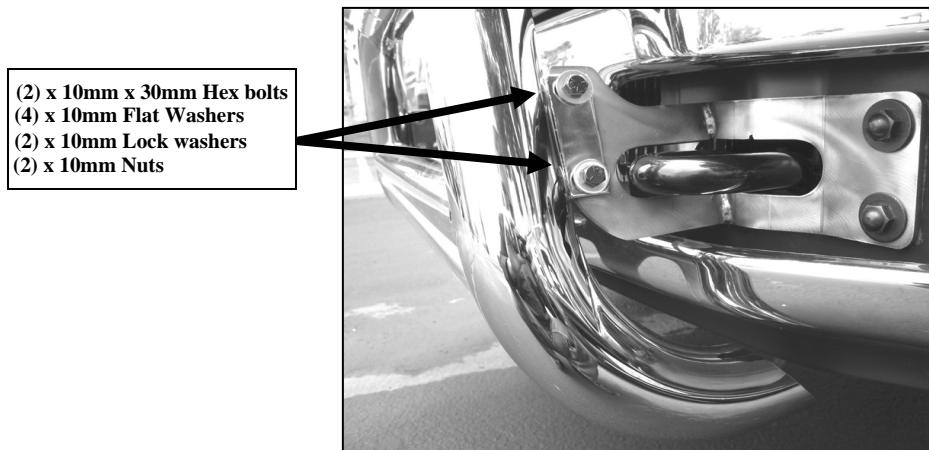

Figure 4
6. With help position Bull Bar on the outer side of Mounting Brackets. Attach Bull Bar to Mounting Brackets using the included (4) 10mm Hex Head Bolts, (4) 10mm Nuts, (8) 10mm Flat washers (4) Lock Washers (Figure 4). Do not tighten at this time.